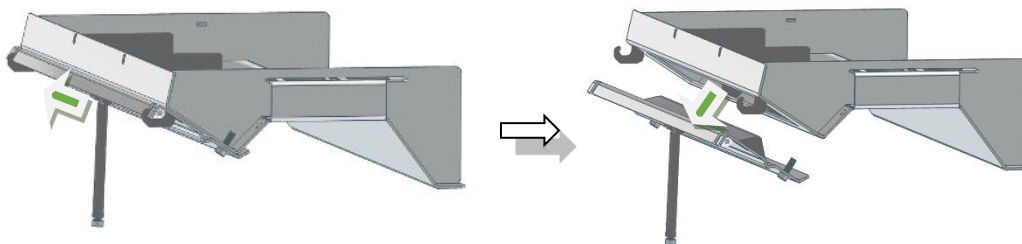

Figure 12 – Removing double deflector flap
3. Then move the double deflector upwards (1) and then move it forward (to the door) (2), it is loose and you can detach and remove it by pulling down (3), see Figure 12 – Removing double deflector flap.
1. You can remove the front visor of the double smoke deflector, for this you just need to detach the visor from the supports, as can be seen in Figure 12.